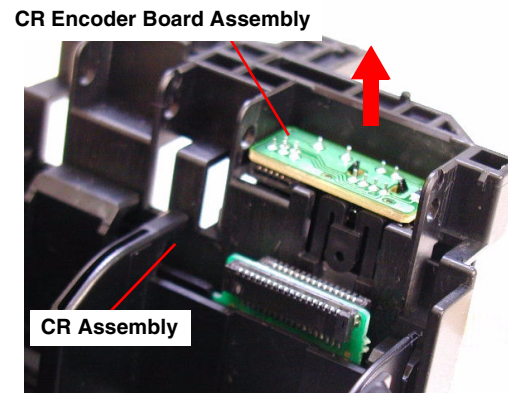

Figure 4-50. Removing the CR Encoder Board Assy.
- 4) Remove the CR Encoder Board Assembly from the CR Frame as shown in Figure 4-50.